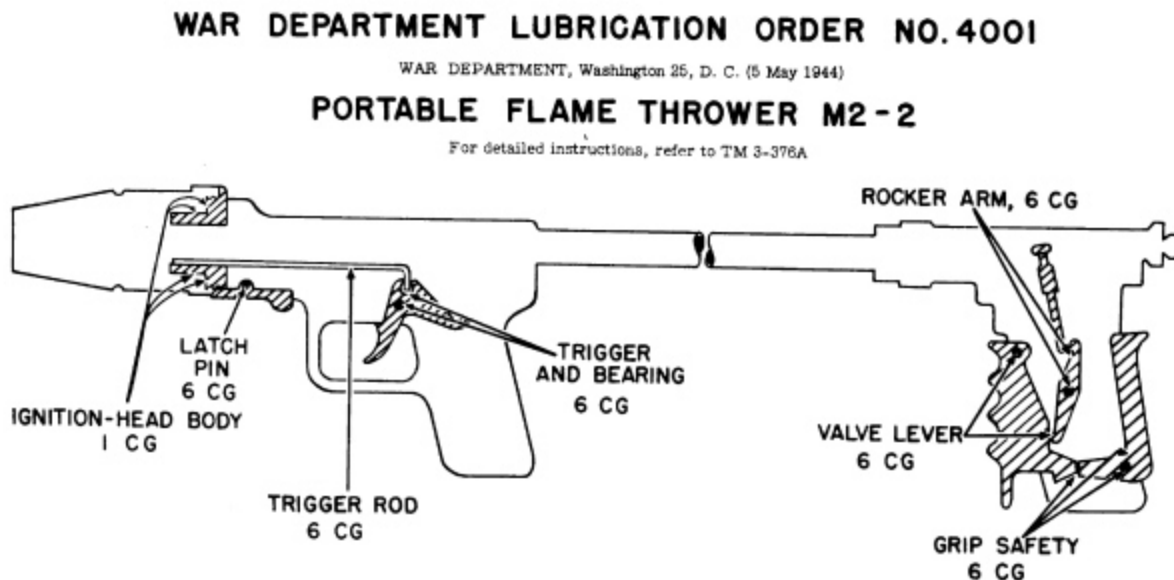

Fig 31. Lubrication order.
a. Gun group. War Department Lubrication Order No. 4001 (Fig 31) shows the parts which require lubrication, the lubricants, and the intervals.
(1) Lubricants. Grease, general purpose, No. 1 is used, except for temperatures below freezing, when grease, general purpose, No. 0 is used. The bearing surfaces should be lightly coated with the grease.
(2) Frequency of lubrication. The surfaces of the ignition-head body which touch the spring case should be lubricated after each use of the weapon. Other parts are lubricated after six firing missions, six training sessions, or oftener. All should be thoroughly cleaned (Pars 52, 55, and 56) with gasoline, dry cleaning solvent, or other solvent, then dried before lubrication. If the gun is disassembled for any other reason, it should be lubricated before reassembly.
(3) Records. To ascertain when six missions have been fired, a record of firing (Par 2) should be kept with each flame thrower.